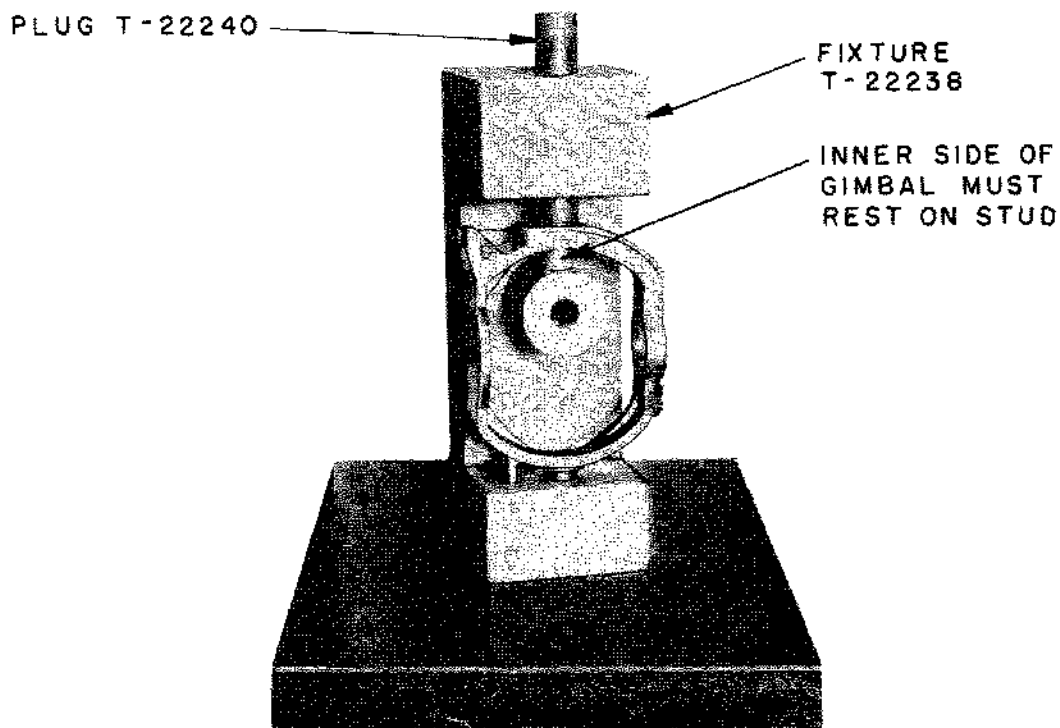

FIGURE 22 INSTALLING THE AIR PIVOT IN THE GIMBAL RING
8. Turn the fixture on end with plug uppermost (see Fig. 22) and press pivot into place with an arbor press or tap into place with a lead hammer. CAUTION: Be sure that the pivot is seated firmly in the bottom of the recess.